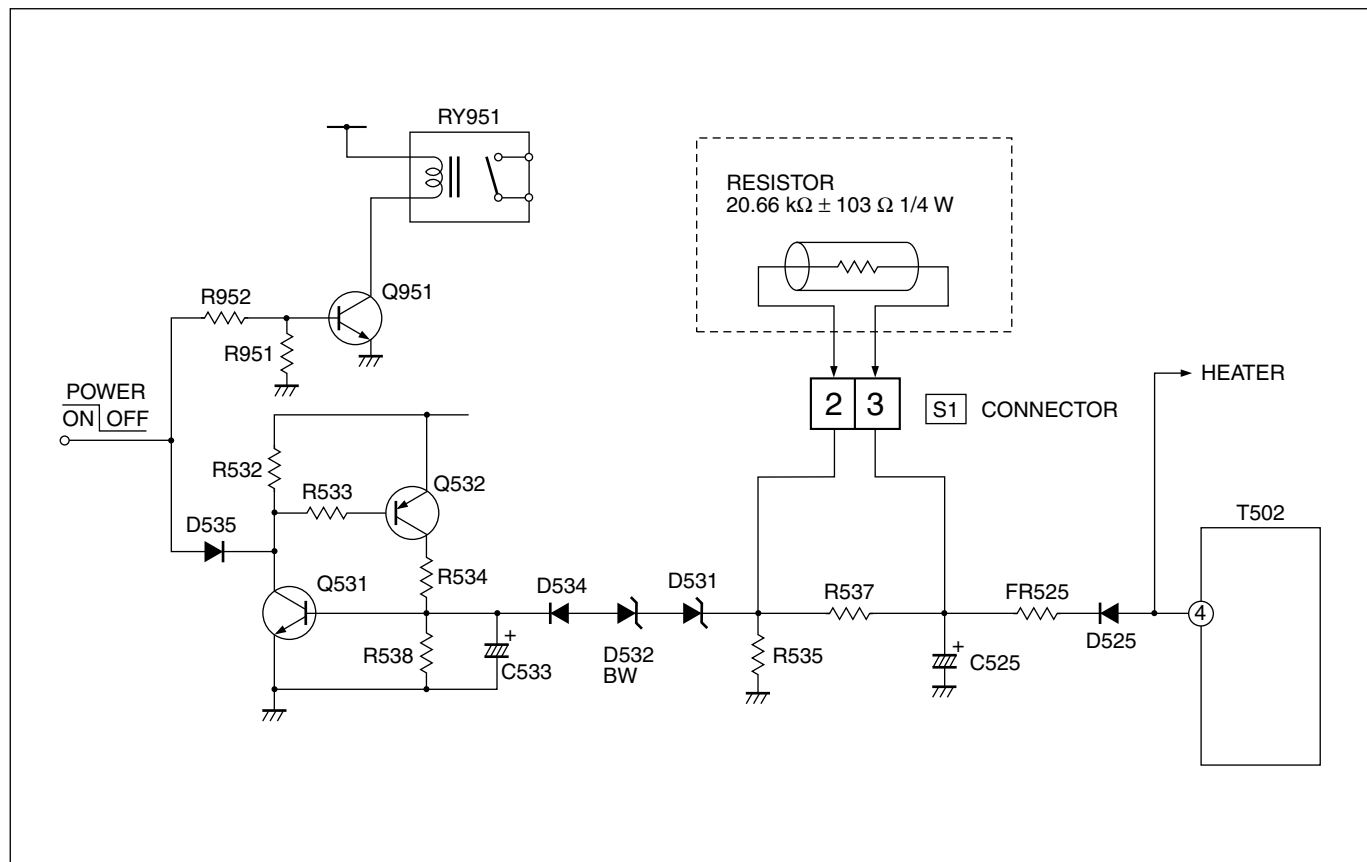

Fig. 1
After repairing the high voltage hold down circuit shown in Fig. 1.
- (1) Turn the POWER SW ON.
- (2) As shown in Fig. 1, set the resistor (between [S1] connector [2] & [3] ).
- (3) Make sure that the screen picture disappears.
- (4) Temporarily unplug the power cord.
- (5) Remove the resistor (between [S1] connector [2] & [3] ).
- (6) Again plug the power cord, make sure that the normal picture is displayed on the screen.